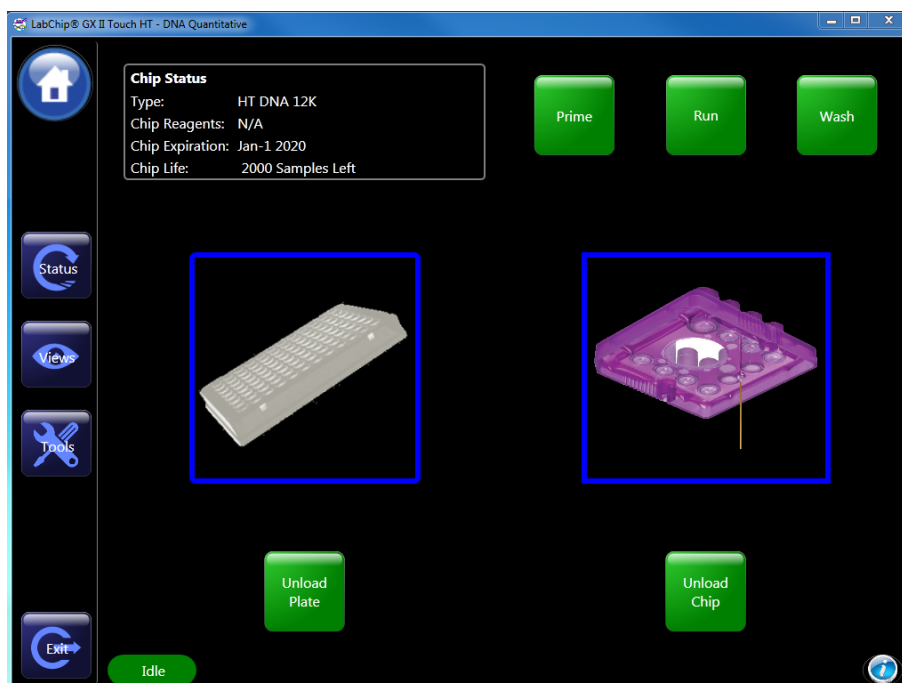

Figure 4. *Home* screen.
- 5 Touch the *Load Plate* button on the *Home* screen (Figure 4) to retract the sample plate and send the sipper to the Buffer Tube.